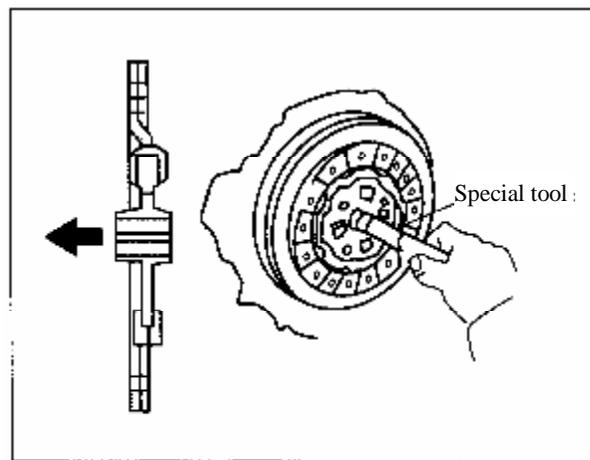
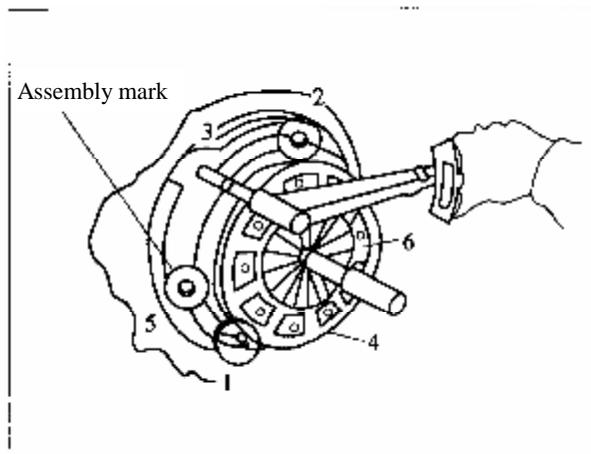

Figure 3-65 Installation of Clutch
Figure 3-66 Installation of Clutch
**3.10.4** Installation of clutch: use the tools same as that used on inputshaft of transmission to install the clutch driven plate onto flywheel. Align the mark on clutch housing with the mark at outer edge of flywheel, and then evenly tighten the bolts. The tightening torque is 28~35N·m (see Figure 3-65, Figure 3-66).